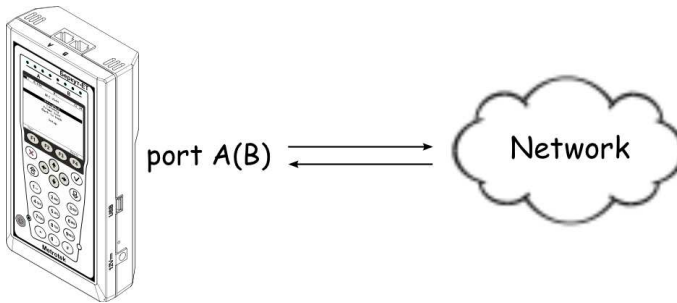

Figure 5.54. Connection diagram 1
1. Connect **Bercut-ET** to network using one port in accordance with connection diagram (see fig. 5.54).